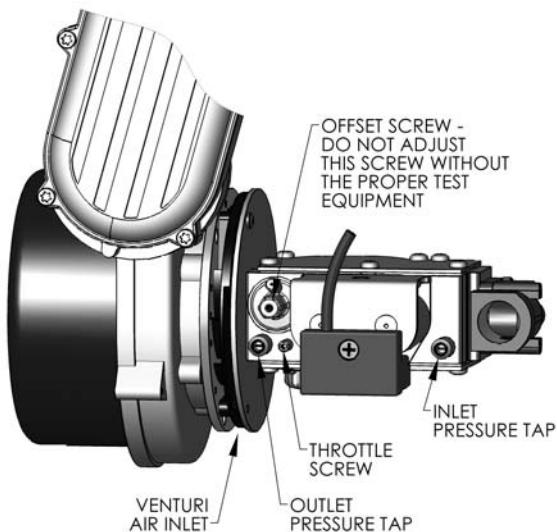

Figure 5.2: Gas Valve/Venturi
2. Table 5.3 shows the maximum and minimum fuel gas supply pressure to be measured at the gas valve inlet pressure tap. See figure 5.2.
- c. Using a flat screwdriver, turn the screw inside the inlet tap fitting (see Figure 5.2) one turn counter clockwise.
1. Figure 5.2 is an illustration of the gas valve/venturi assembly for the *PUREFIRE®* boiler.
- a. Adjustments should not be made to the gas valve without instrumentation to measure carbon dioxide (CO_2) and carbon monoxide (CO) emissions in the vent pipe.